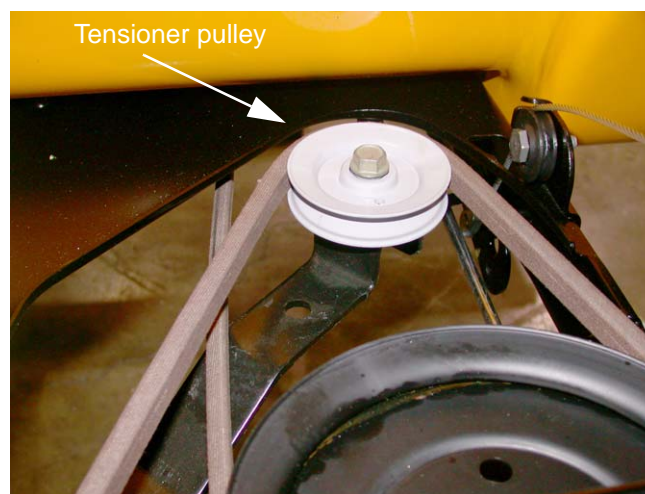

Figure 17.4
17.4. Pull the upper drive belt tensioner pulley rearwards to provide slack in the belt, and roll the belt off of the tensioner pulley. See Figure 17.4.